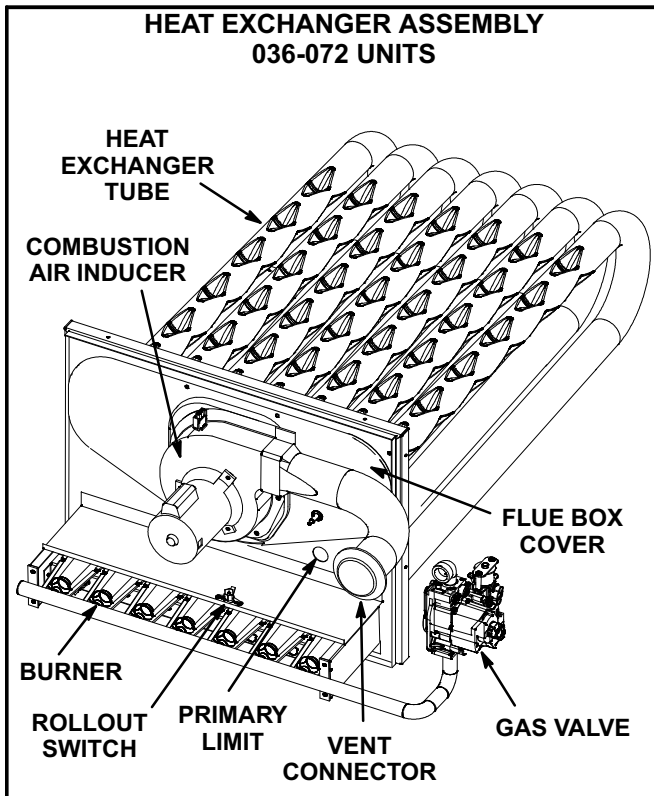

FIGURE 4
Annually, before heating season, inspect the combustion air louvers, vent cap, heat exchanger, burners and combustion air inducer for corrosion, deterioration or deposits of debris. Remove any obstructions or blockage. See figure 4.
- 3- Remove and retain the screws securing the combustion air inducer to the flue box. Remove and retain two screws from the bracket supporting the vent connector. See figure 4.